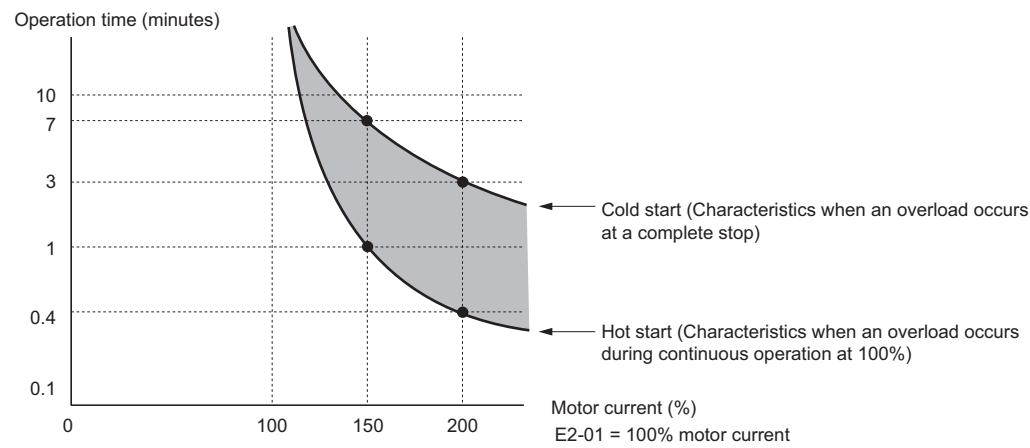

Figure 64 Protection Operation Time for General Purpose Motors at the Rated Output Frequency
- **Figure 64** shows an example of the electrothermal protection operation time using a general-purpose motor operating at 50 Hz with L1-02 set to one minute.